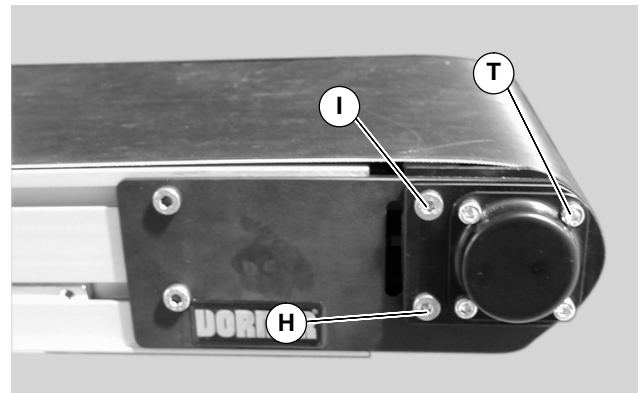

Figure 24
7. Loosen screws (H and T of Figure 24).
8. Remove screw (I of Figure 24). Remove existing spacer plates (J of Figure 25).